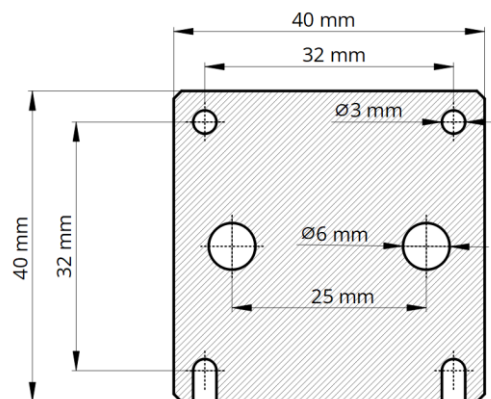

Figure 8.3. Mounting bracket dimensions.
3. **Custom mounting.** The solar simulator lamp can be mounted to any user-supplied mounting platform using four M3 bolts and/or two M6 bolts, so long as there is unrestricted airflow 5 cm above and below the lamp unit. The mounting bracket dimensions are shown in **Figure 8.3**